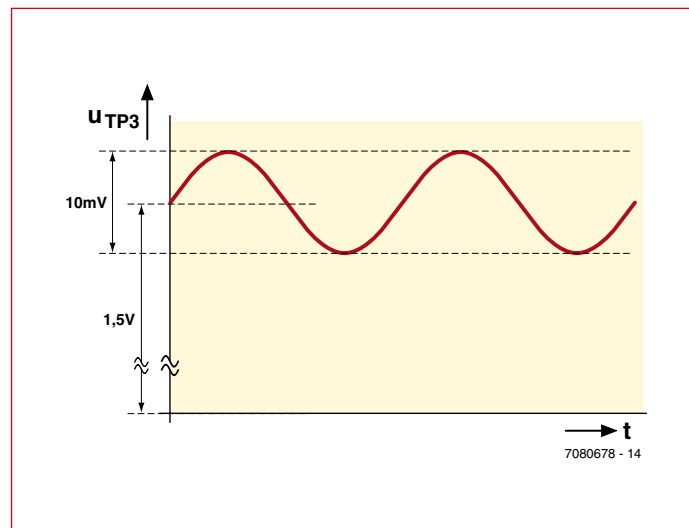

Figure 4. The signal after amplification by opamp IC1a.
The third part (C) of the analogue portion contains opamp IC1a, which is configured with R4 and R5 as a non-inverting amplifier with a voltage gain of 200. This yields a sinusoidal voltage with an amplitude of 10 mV at the output of the opamp (LM358 pin 1, or TP3), superimposed on a DC voltage of 1.5 V (**Figure 4**). This voltage forms the input signal of part D of the circuit, which consists of two passive low-pass filters (R6/C5 and R7/C4). In addition to attenuating HF interference, which is unavoidably present when the top is used close to a source of electromagnetic interference such as a PC, the differing time constants of these filters (C4 is much larger than C5) produce a phase offset between the filter outputs at TP4 and TP5. This can be seen graphically in **Figure 5**.